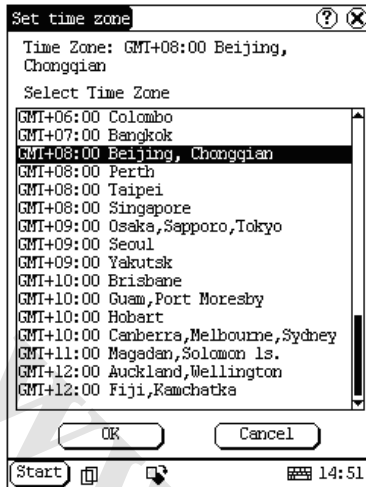

Figure 4-43
- 1) In the Date/Time interface, click [Set Time zone] button to open the Set Zone interface as shown in Figure 4-43.